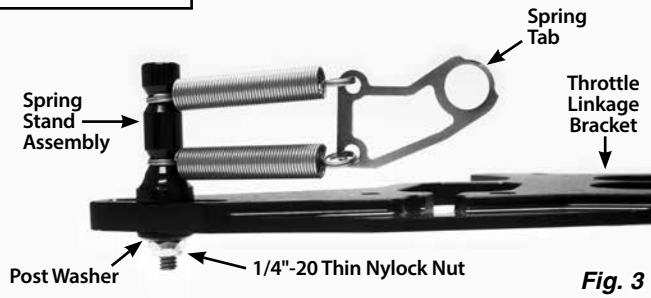
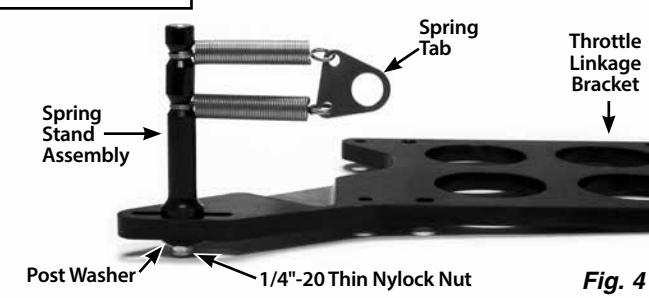

Fig. 3
Fig. 4
Step 1: Remove the 1/4"-20 thin nylock nut and the post washer from the spring stand assembly. Install the spring stand with the springs and spring tab onto the top side of the throttle linkage bracket, into the slot at the front driver side corner. Install the post washer (beveled edge out) and 1/4"-20 thin nylock nut on the bottom. Fig. 3 and Fig. 4